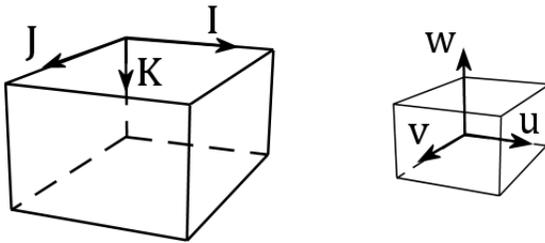

Figure 5.3. Coordinate systems used by Format 3.
- **u, v, w, I, J, K, z, c, r**. A line contains the data for a starting location. Repeat as often as needed. As illustrated in Figure 5.3, $[\mathbf{I}, \mathbf{J}, \mathbf{K}]$ are the [column, row, layer] indexes of the cell containing the starting location; $[\mathbf{u}, \mathbf{v}, \mathbf{w}]$ are the local coordinates (ranging from 0 to 1) of the starting location within the cell. The origin of $[\mathbf{I}, \mathbf{J}, \mathbf{K}]$ is the highest northwest corner of the model and the origin of $[\mathbf{u}, \mathbf{v}, \mathbf{w}]$ is the lowest northwest corner of a cell. \mathbf{r} is the retardation factor. \mathbf{z} and \mathbf{c} are not used by Seer3D.